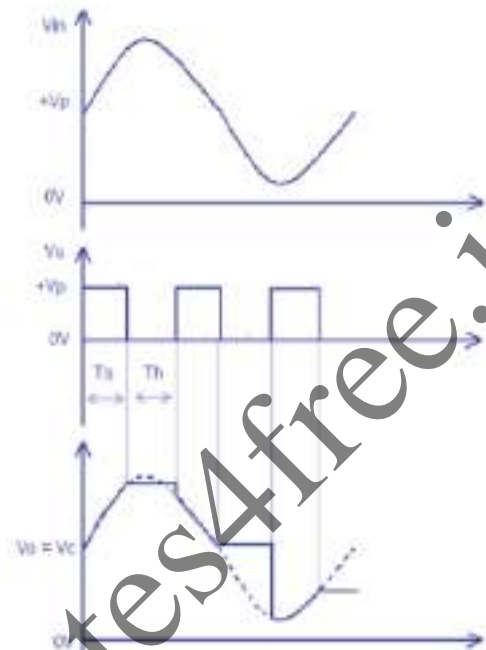

Fig. 2.4. Sample and Hold input and output waveform
- The sample and input and output waveform is shown in Fig. 2.4